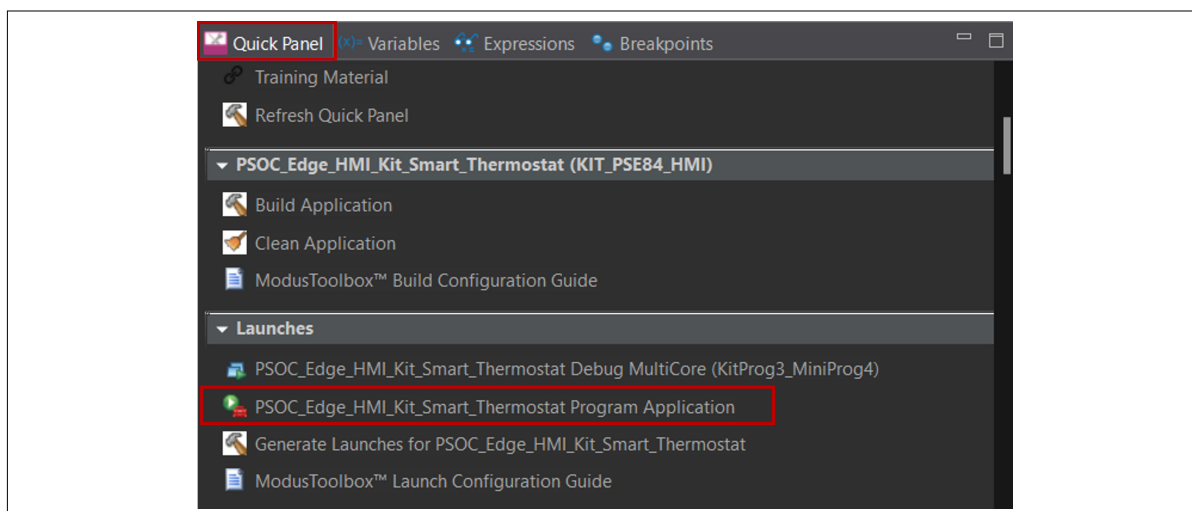

Figure 47 Programming in ModusToolbox™
4. To build and program a PSOC™ Edge E84 MCU application in the Project Explorer, select project. In the Quick Panel, scroll to the Launches section and click the Program Application , as shown in the following Figure 47